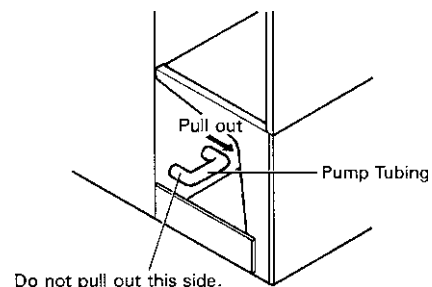

Fig. 4
- 10) Drain the water tank by removing the base cover and one end of the pump tubing. See Fig. 4.